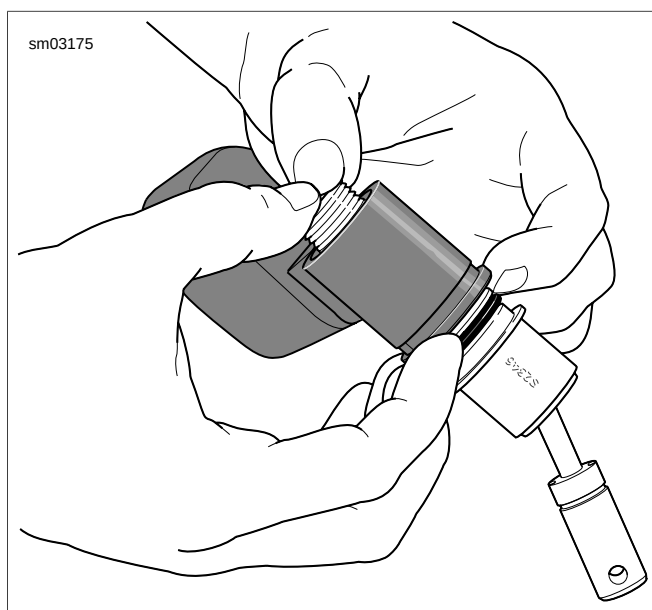

Figure 2-57. Removing Cartridge
4. Remove the large flat washer (17), dust boot (12) and spring (10) from pushrod/clevis/spacer washer (7) end of cartridge body (2). Remove spring (10) and spring retainer (11) from dust boot (12).
5. See Figure 2-57. Push on threaded end of cartridge body to remove from reservoir adapter. Use hand pressure only. Exercise care to keep cartridge body free of dirt and grease.